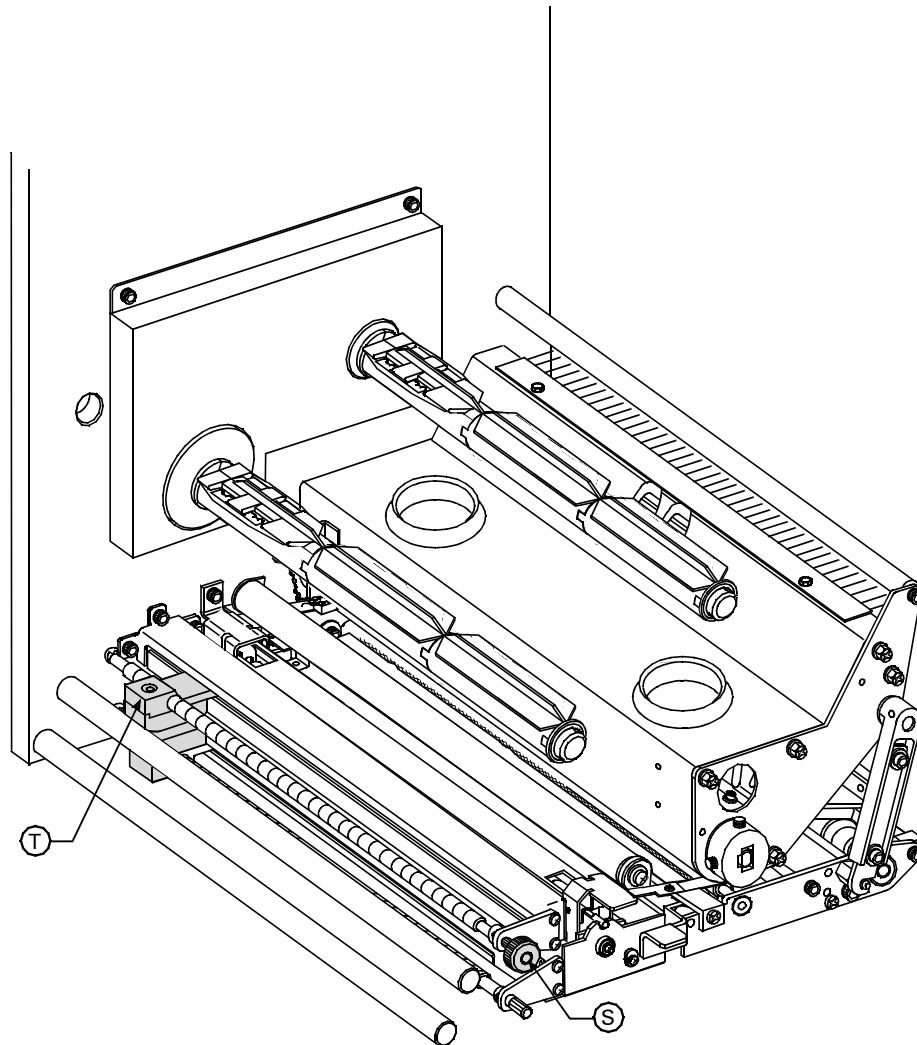

Figure 6. Media Sensor Adjustment (Right-Hand Unit Shown)
The transmissive media sensor identifies “start of label” indicators such as a notch or hole in the media or an interlabel gap (backing only) between labels. This sensor consists of a light source (positioned below the media) and a light sensor (positioned above the media). To properly align the position of this sensor, refer to Figure 6 and turn the adjustment knob (S) on the media guide shelf assembly until the sensor (T) is aligned with the notch or hole in the media. If your media uses an interlabel gap, position the media sensor approximately at the center of the media width.